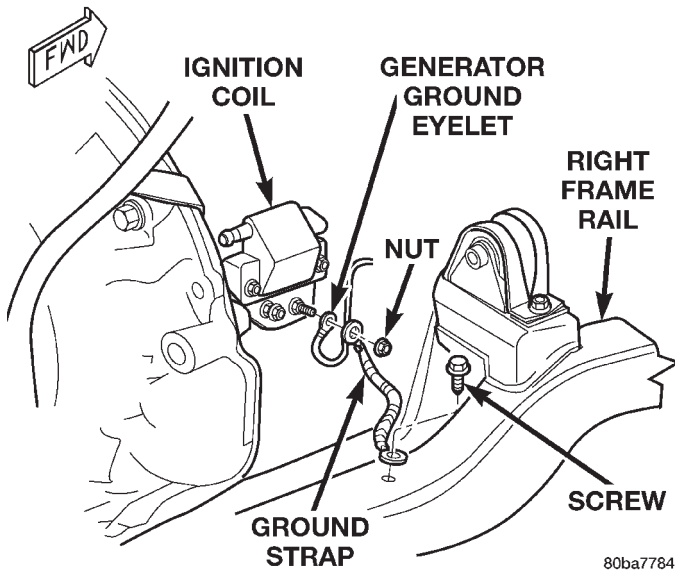
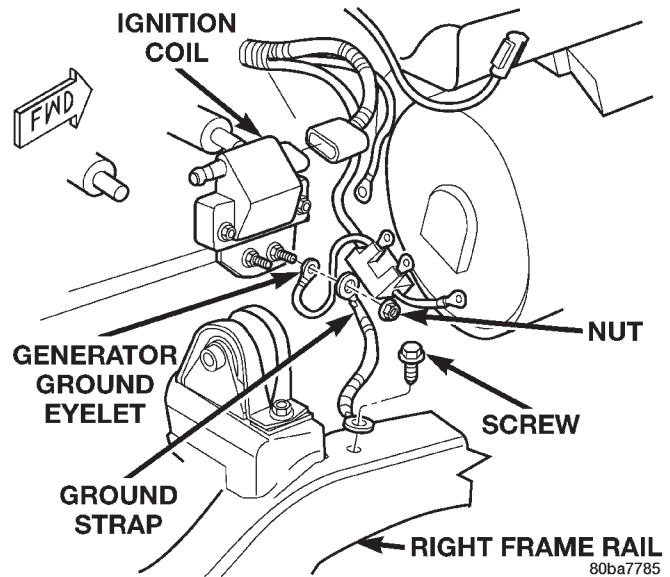

Fig. 11 Engine-To-Frame Ground Strap Remove/ Install - 2.5L Engine
Fig. 12 Engine-To-Frame Ground Strap Remove/ Install - 4.0L Engine
(1) Remove the nut that secures the engine-to-frame ground strap eyelet to the forward ignition coil mounting stud on the right side of the engine (Fig. 11) or (Fig. 12).